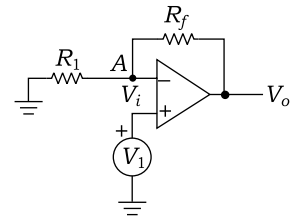

Fig. 6.55
31. Figure 6.55 shows an operational amplifier circuit. The operational amplifier has slew rate about $0.5 \text{ V}/\mu\text{s}$, gain is 9, output saturation voltage levels are $\pm 10 \text{ V}$, and maximum frequency is 50 kHz.